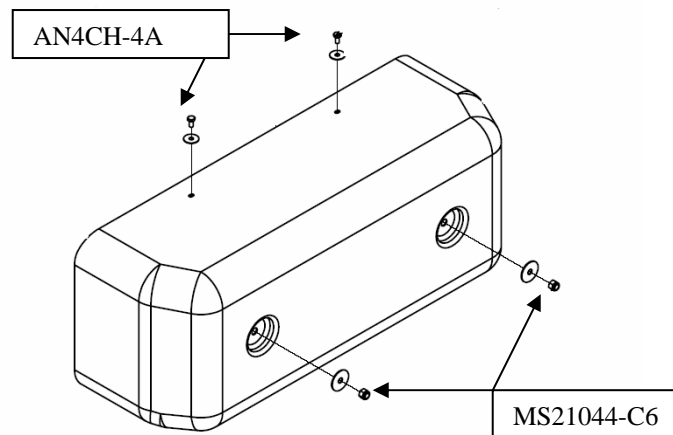

Figure 1
- 2) Remove the forward fairing by removing the two (2) AN4CH-4A bolts on the top of the fairing using the 7/16 socket first then remove the two (2) MS21044-C6 nuts on the front of the fairing using the 9/16 socket. See figure 1.